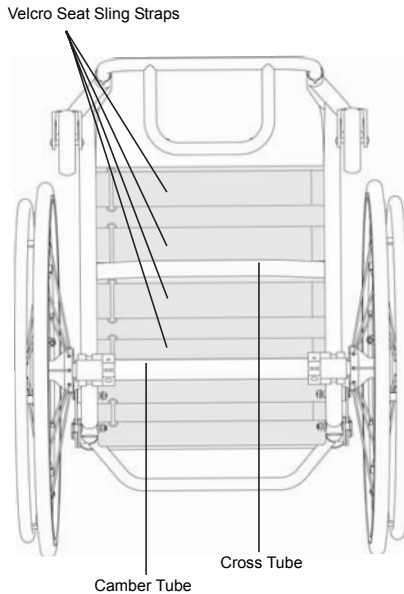

Figure 58
Do not make the seat sling upholstery tension so loose that it does not properly support your weight. The sling should never be so loose that the sling causes your weight to be borne by the cross-tube below the seat sling. See Figure 58.
4. Detach one Velcro tension adjustable strap, adjust to the desired tension and refasten the strap. See Figures 58 and 59.